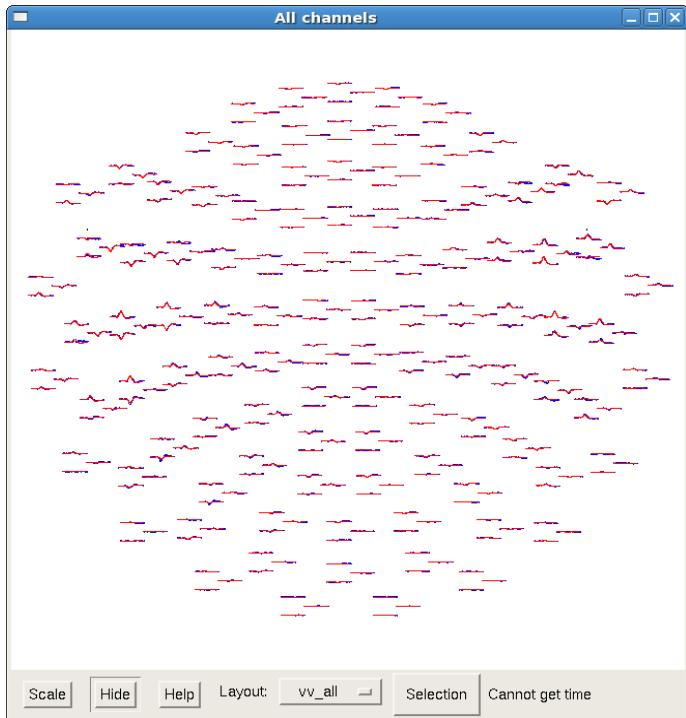

Figure 36: *Xfit* measured and predicted MEG channel waveforms.
- Review the **Full view** window that contains the original responses with the predicted signals superimposed (Figure 36).